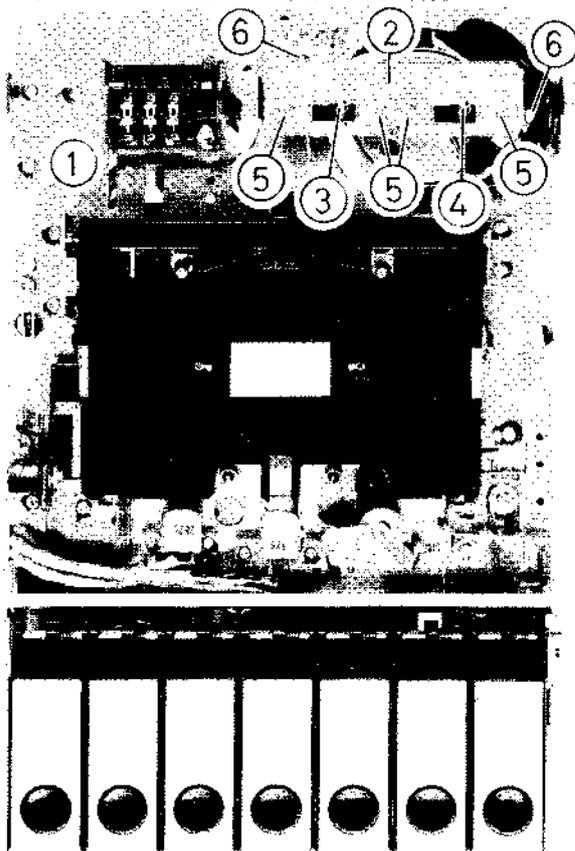

Fig. 33
**PARTS LIST OF MECHANICAL ASSEMBLY (Refer to Fig. 33 & 34)**